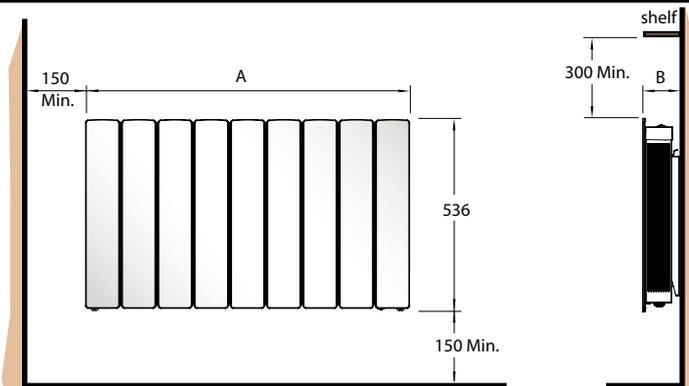
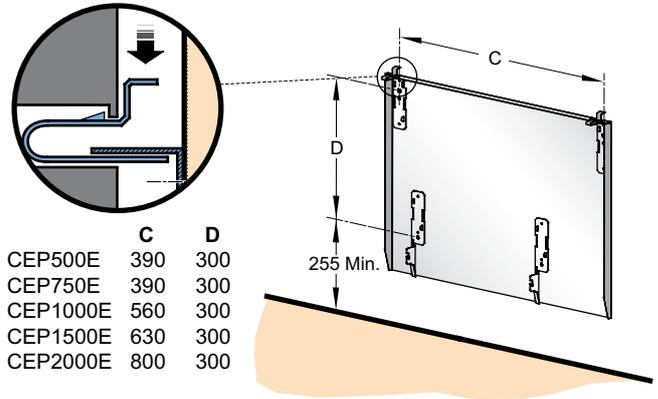

Fig. 1
Fig. 2
The heater is designed for wall mounting on the wall bracket supplied. It should only be operated when in the upright position as shown - see Fig. 1.
IMPORTANT – The wall bracket supplied with the appliance must be used. The heater should be positioned observing the minimum clearances stated around the heater - see Fig. 1 and Fig. 2.
1. Remove wall mounting bracket from the back of the heater by depressing the spring latch at the top of each bracket - see Fig. 2.
To release the heater from the wall bracket for cleaning or redecoration, depress the latch on each bracket (see **Fig. 2**) and hinge forward.